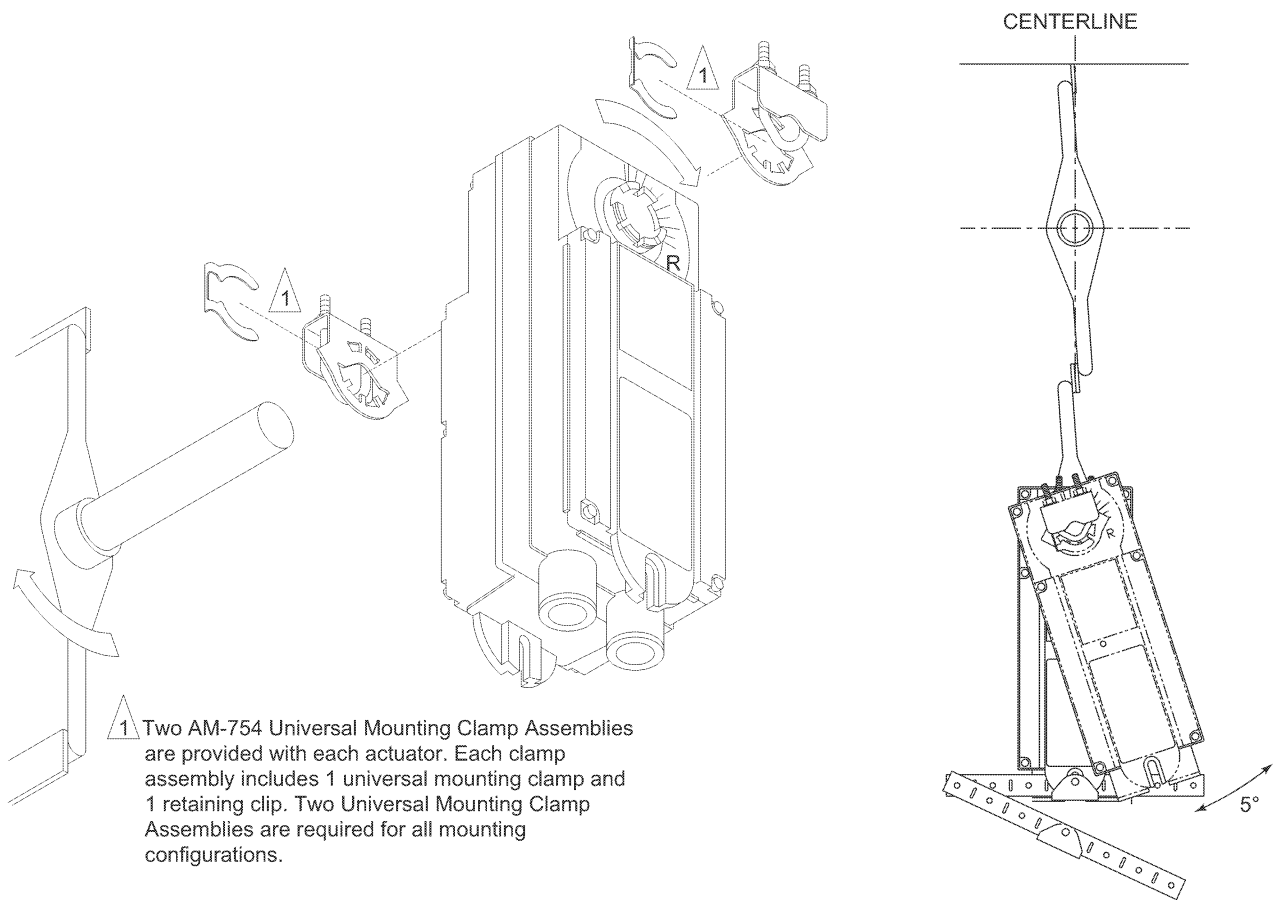
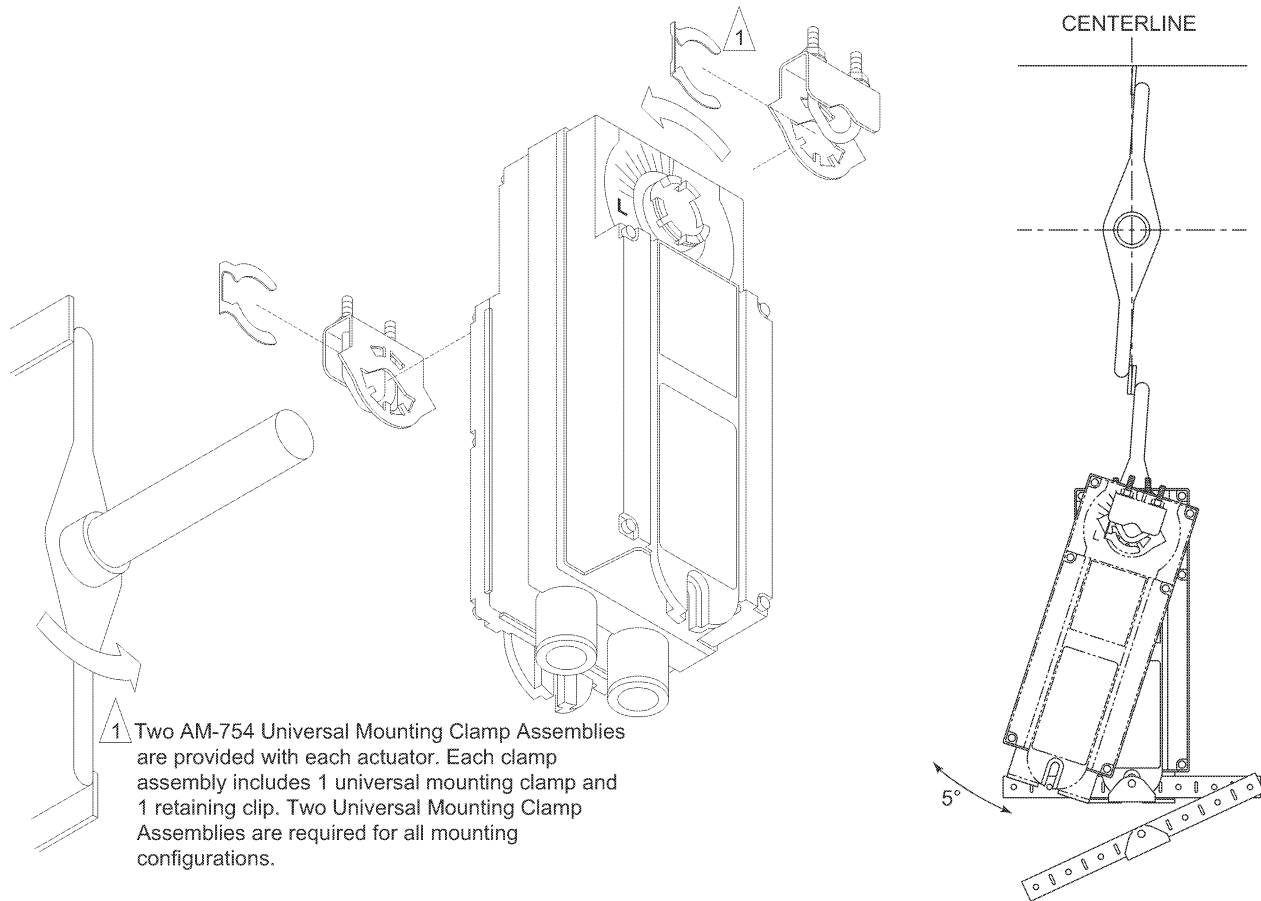

Figure-10 Long Damper Shaft Mounting and Actuator Parts Identification, Actuator Rotation Clockwise to Closed.
Figure-11 Long Damper Shaft Mounting and Actuator Parts Identification, Actuator Rotation Counterclockwise to Closed
- If the damper shaft rotates clockwise to the closed position, mount the actuator with the side marked “R” facing the installer. See Figure-10.
- If the damper shaft rotates counterclockwise to the closed position, mount the actuator with the side marked “L” facing the installer. See Figure-11.
2. Slide the actuator over the shaft and into its desired final mounting position. See Figure-10 or Figure-11.
7. Pivot the anti-rotation bracket away from the actuator. See Figure-10 or Figure-11.
8. Loosen the universal mounting clamps, making sure not to move the damper shaft. Rotate the actuator approximately 5° in the direction which would open the damper. See Figure-10 or Figure-11.
10. Manually rotate the actuator toward the full-closed position to apply pressure to the damper seals. See Figure-10 or Figure-11.
11. Pivot the anti-rotation bracket into place and secure the other side of the bracket onto the mounting surface using the other screw provided with the actuator. See Figure-10 or Figure-11.
12. Verify that the damper is in its full-closed position and actuator at 90° (perpendicular) to the damper shaft. See Figure-10 or Figure-11.
9. Attach one side of the anti-rotation bracket to the mounting surface with one of the screws provided. Leave the screw loose so that the bracket can be rotated. See Figure-10 or Figure-11.
10. Pivot the anti-rotation bracket away from the actuator. See Figure-10 or Figure-11.
11. Loosen the universal mounting clamps, making sure not to move the damper shaft. Rotate the actuator approximately 5° in the direction which would open the damper. See Figure-10 or Figure-11.
13. Manually rotate the actuator toward the full-closed position to apply pressure to the damper seals. See Figure-10 or Figure-11.
14. Pivot the anti-rotation bracket into place and secure the other side of the bracket onto the mounting surface using the other screw provided with the actuator. See Figure-10 or Figure-11.